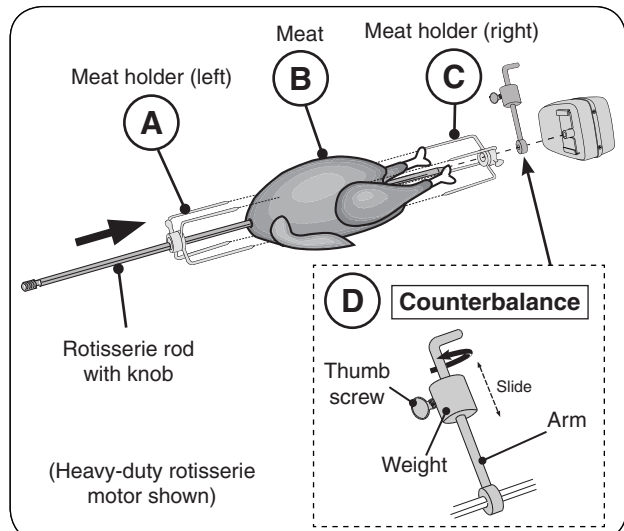

Fig. 27-3 Assemble rotisserie rod for cooking
4. Slide the left meat holder onto the rod and tighten (see Fig. 27-3, A).
5. Then slide meat onto the rod, followed by the right meat holder (see Fig. 27-3, B and C).
8. The counterbalance may then be attached to even weight distribution. Slide the counterbalance onto the rod next to the right meat holder (see Fig. 27-3, D). Loosen the arm and point it upward opposite the heavy side of the meat. Tighten the arm.
9. Slide the counterbalance weight up or down the arm until the rod rotates most evenly then tighten thumb screw (see Fig. 27-3, D).